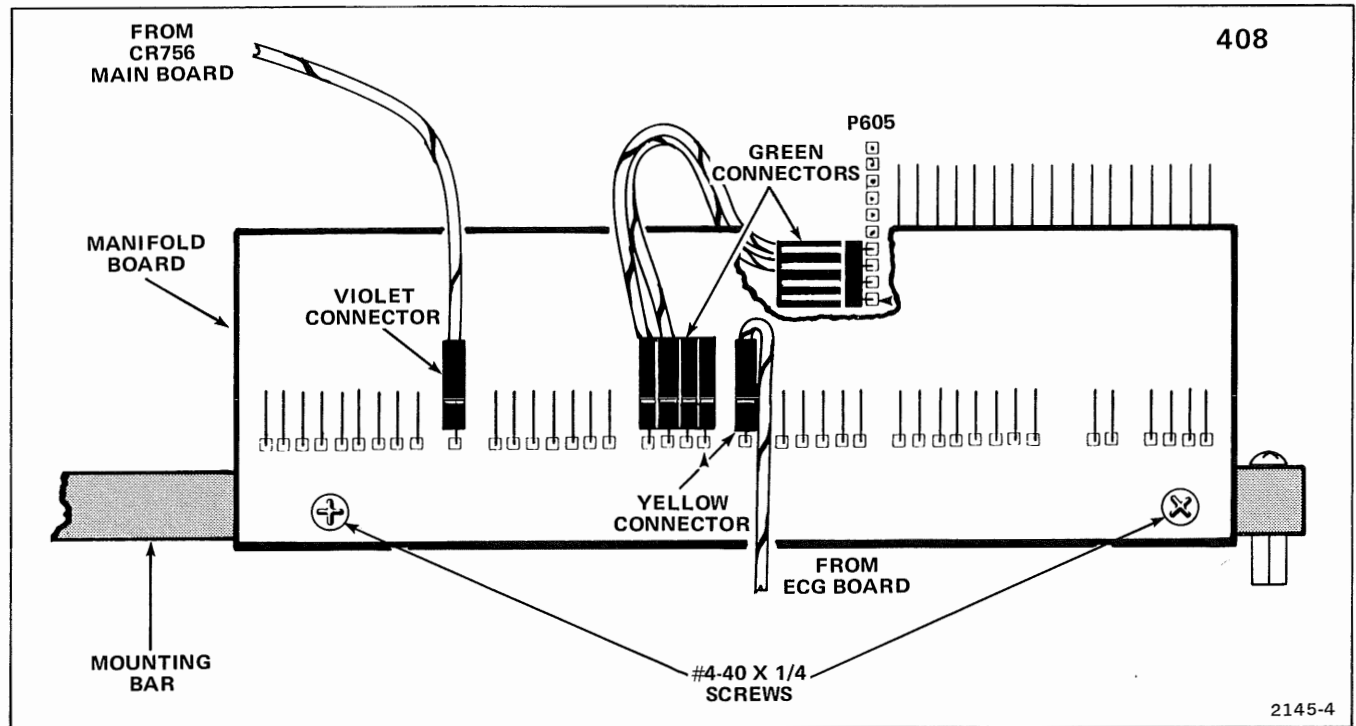

Figure 1-14. Installing Manifold Board and connecting cable in 408.
2. Connect two-wire cable with green connector to P605; install Manifold Board and connect remaining cables. See Figure 1-14.